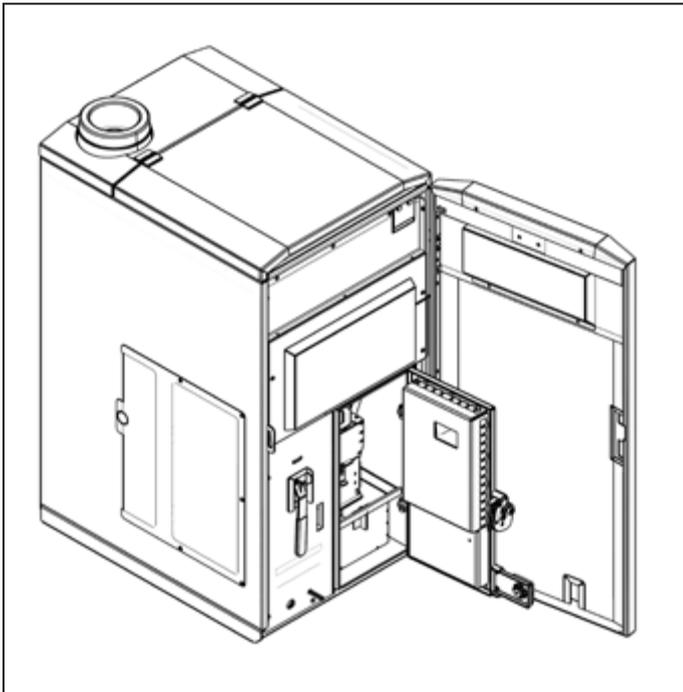

Figure 14: Open combustion chamber door
- Lift handle to release the catch and fully open the combustion chamber door. Refer to Figure 14.